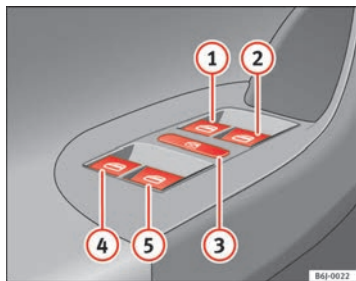

Fig. 49 Detail of the driver door: controls for the front and rear windows
Buttons ⇒ page 84, fig. 49 ①, ②, ④ and ⑤ have two positions for opening windows and two for closing them. This makes it easier to open and close windows to the desired position.